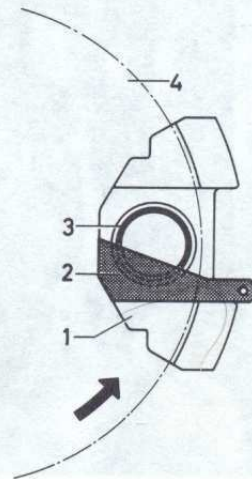

Fig. 9.6 Correct position of the caliper piston recess using a 20° gauge (Sec 4)
- 18 Smear the pistons with hydraulic fluid and insert them into their respective bores. Turn the pistons so that the recesses are at 20° to the bottom of the caliper, as shown in Fig. 9.6 then push them in fully and fit the dust caps.